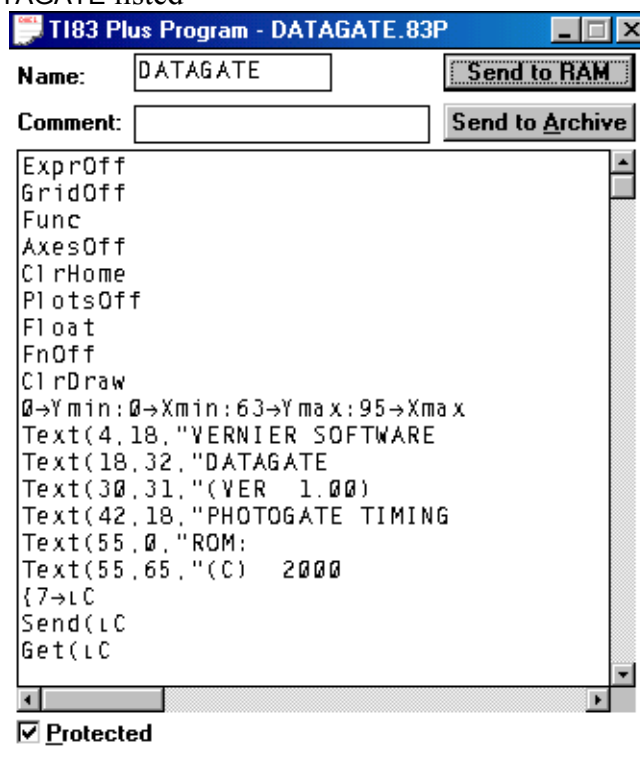

Fig. 1
7. Drag DATAGATE .83p into the program window. See Fig 1.